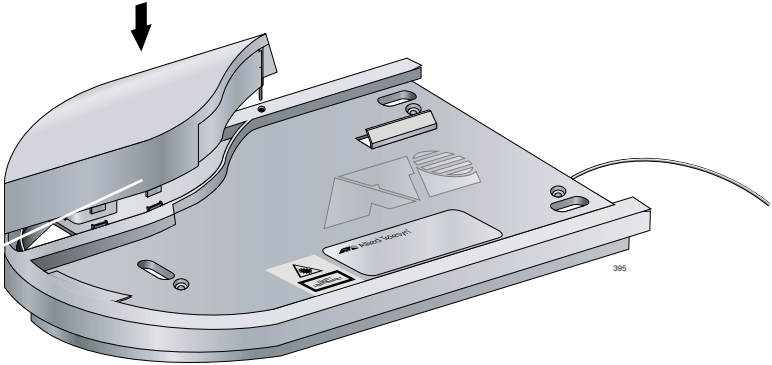

Figure 19. Installing the Connector Cover
16. Align the connector shield with the slots and pin on the cover and snap it down into place, as shown in Figure 19.